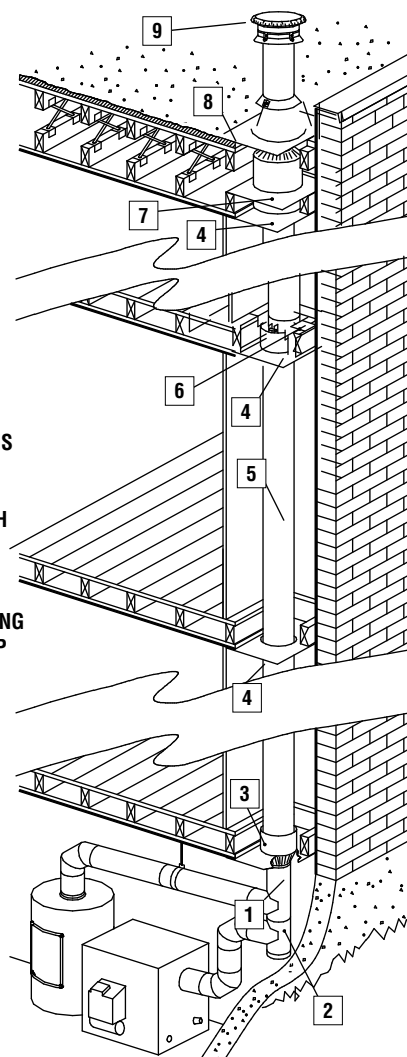

Figure 38
Step 4. From below, install a firestop (FS+) in each floor through which the chimney passes (*see Figure 38*).